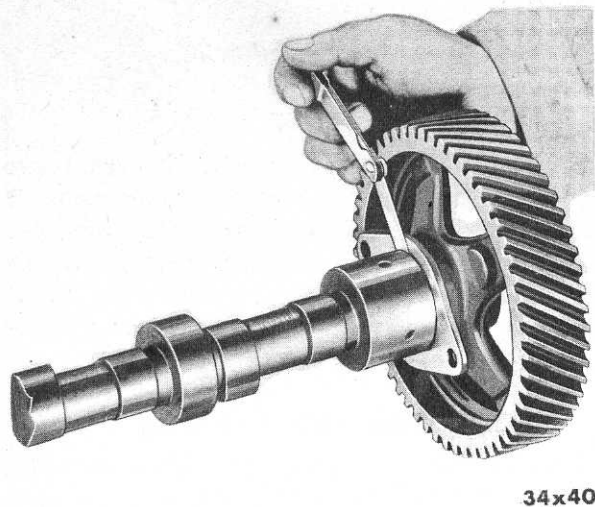

Fig. 17—Measuring Camshaft End Play
Measure the end play, as shown in Figure 17. The end play should be from .002 to .006 inch. If the end play is excessive, install a new thrust plate, or other parts as necessary.
- (3) Check camshaft end play (Fig. 17). End play should be from .002 to .006 inch.
- (4) Slide the camshaft through the bearings, being careful not to damage the bearings.